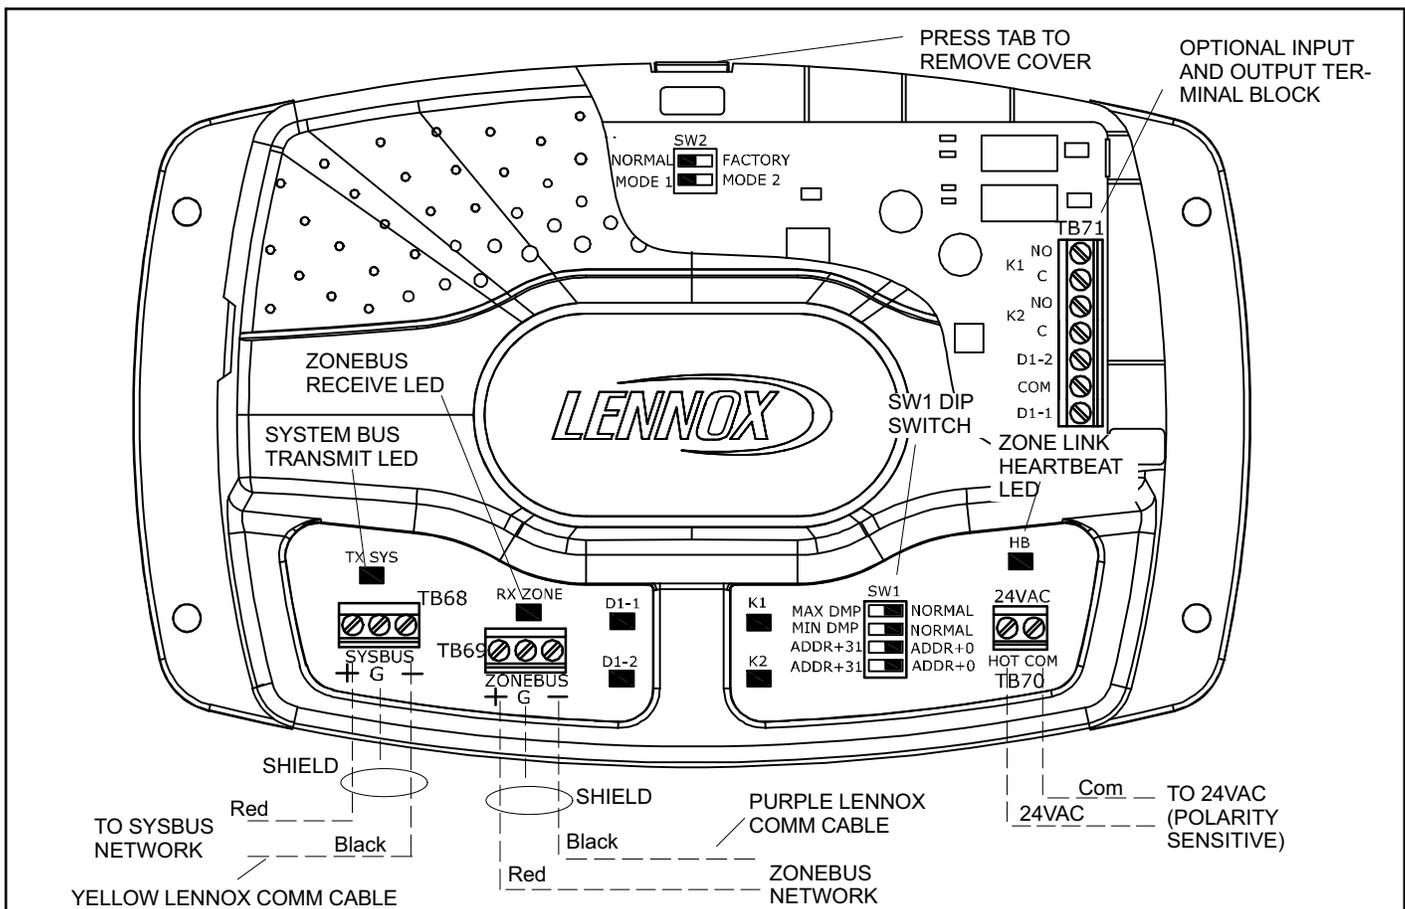

Figure 4. Zone Link Wire Connections (A148)
2. Connect 24VAC to terminal block on Zone Link as shown in figure 4.
3. Connect SysBus and ZoneBus communication cable to the Zone Link as shown in figure 4. Figure 5 shows an example of a zoning network with typical addresses.